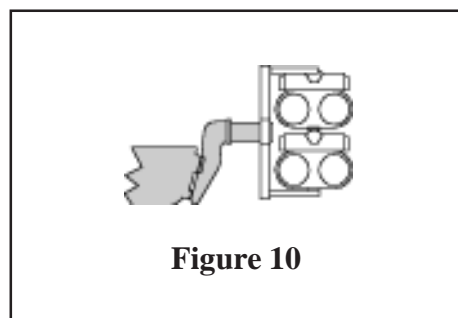

Figure 10
38. Glue one TOW beam assembly directly on top of the other. The pads on front and back of the lower beam mount line up with the tabs on the bottom of the upper beam. Make two assemblies as per Figure 10. These can be painted Dark Green.